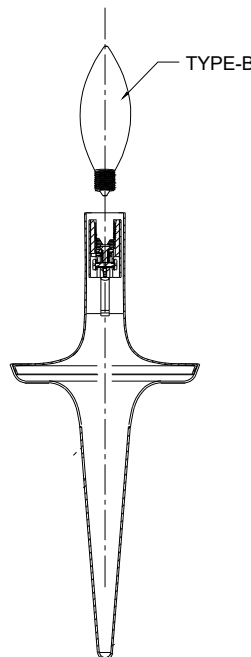

FIGURE-03
9. Place the lamp into the socket of the fixture. (SEE FIGURE-03)